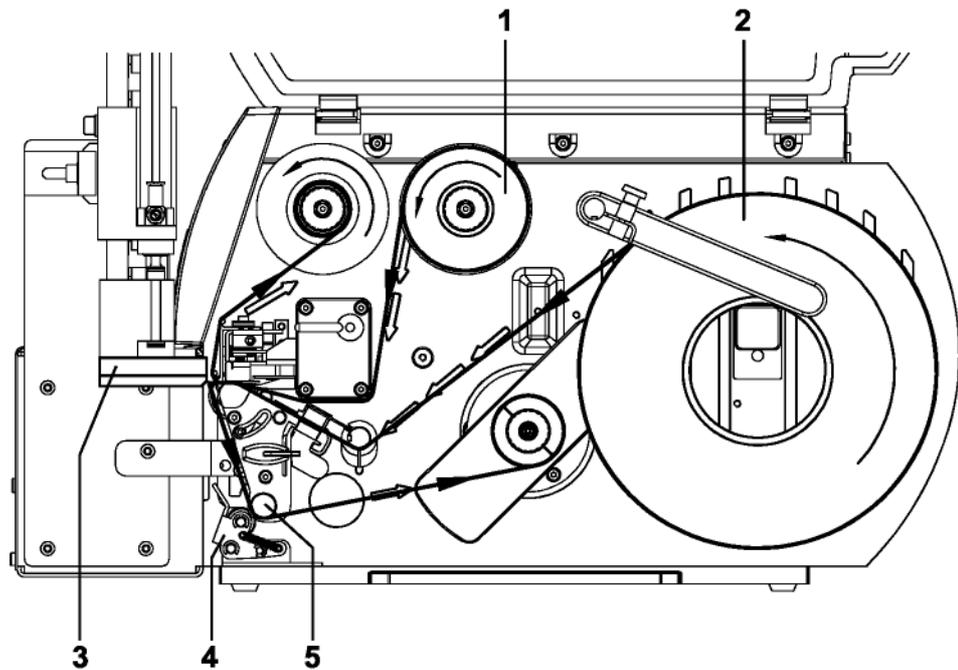

Fig. 9a Label and transfer ribbon feed path
Insert transfer ribbon (1) and labels (2) as shown in figure 9a.
Swing the locking system (4) against the rewind assist roller as shown in figure 9a.